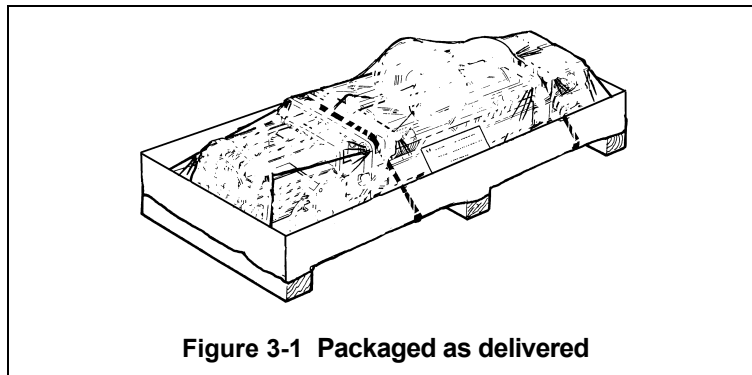

Figure 3-1 Packaged as delivered
- 3.1.2 The RY hoist is delivered pre-assembled on a plastic-covered pallet/skid as shown in **Figure 3-1**. During shipment and storage prior to installation, the trolley hoist should be kept between -4° and $+104^{\circ}\text{F}$ (-20° and $+40^{\circ}\text{C}$) and the relative humidity must not exceed 90%. The standard packaging is not watertight or rainproof.